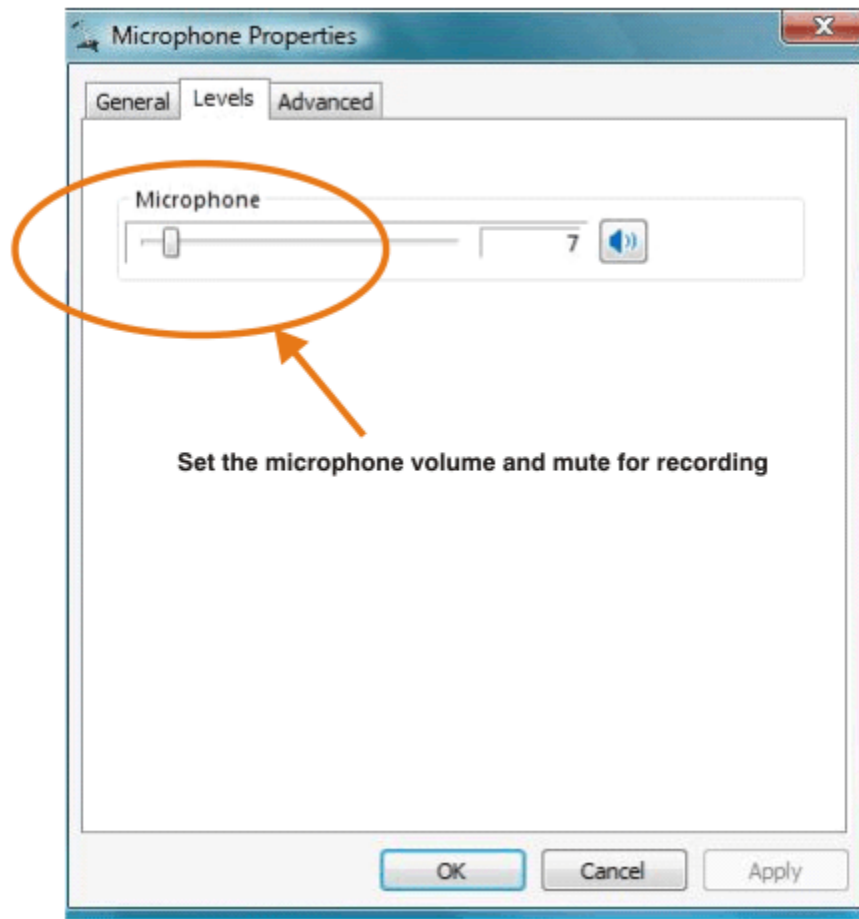

Figure 3-4. Microphone Properties—Levels Tab (Windows)
2. Open the microphone properties of the USB audio codec from the Record options and select the *Levels* tab, as Figure 3-4 illustrates.